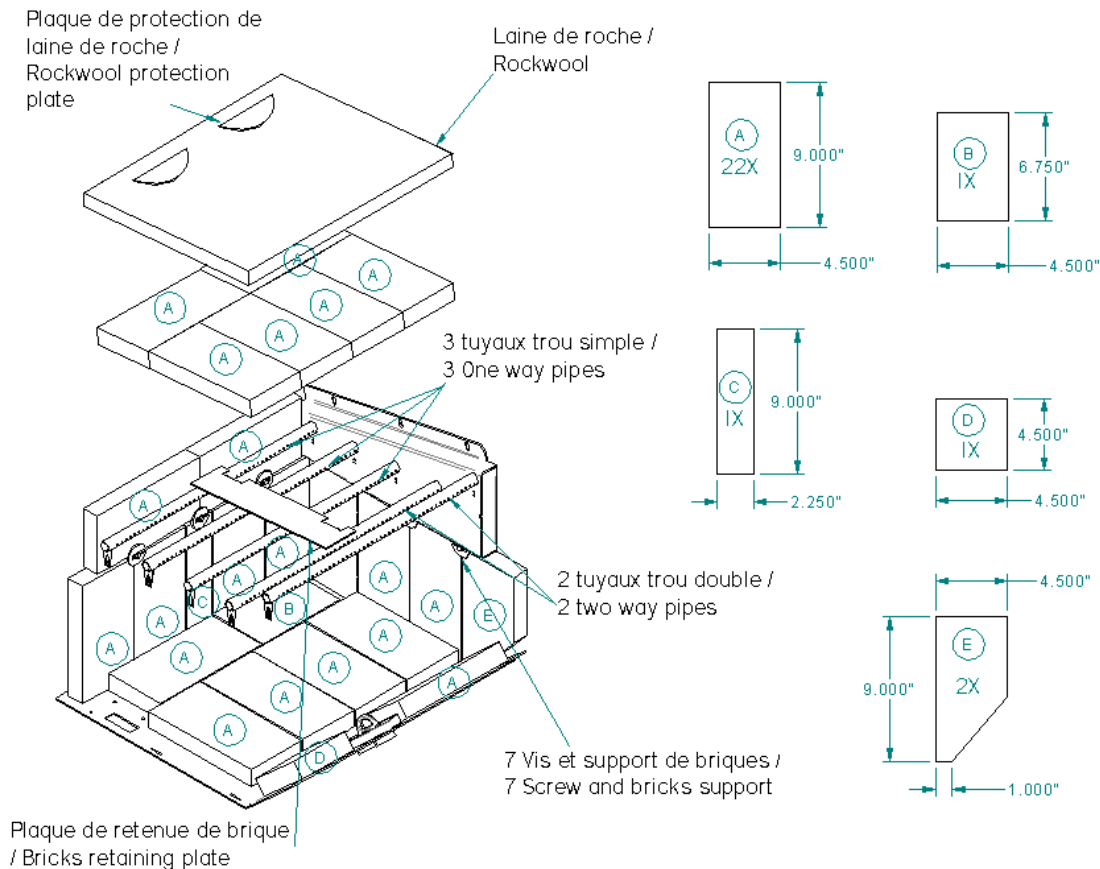

Fig. 1
1. Fix the 7 screws with their bricks support to their designated space but do not tighten them completely. There should be 3 screws on the back and 2 on each side of the stove. (See Fig. 1). If it's not already done.
2. Install the bricks on the back and on the sides of the stove; A(10), C(1), E(2) then completely tighten the bricks support screw so that the bricks be maintained at their place (See Fig.1) If it's not already done.
3. Install these bricks in the bottom of the stoves: A(6), B(1), D(1) (See Fig. 1) If it's not already done.
4. Install the 4 stainless steel pipes beginning from the rear of the stove. Put the bricks retaining plate on the pipes. Install the 2 rear bricks on the top of the pipes A(2) (See Fig. 1) If it's not already done.